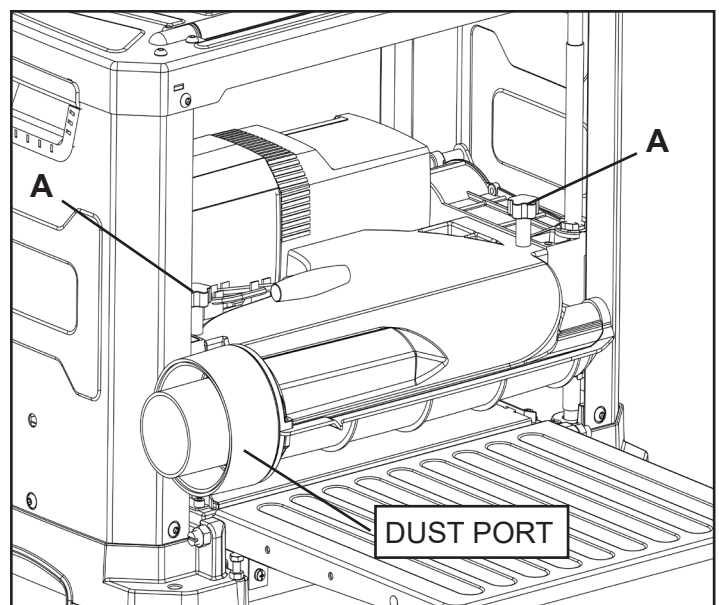

FIG. 2
2. Locate the two Dust Hood Knobs (A, Fig.2).